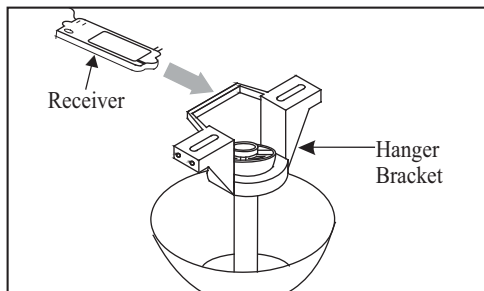

Figure 14
1. Insert the receiver into the hanger bracket with the flat side of the receiver facing the ceiling as shown in Figure 14.